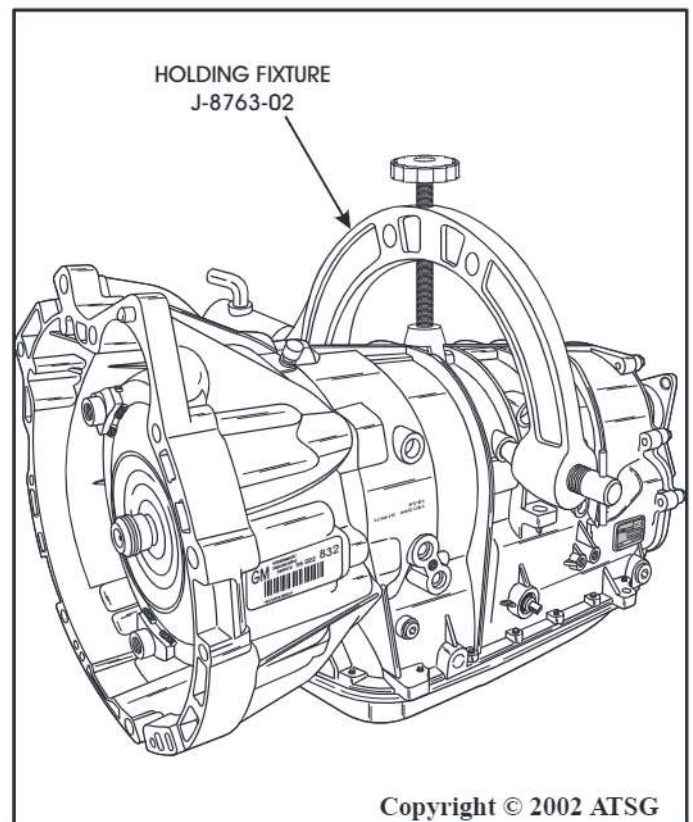

Figure 214
26. Remove the fixture from transmission. Refer to Figure 214.